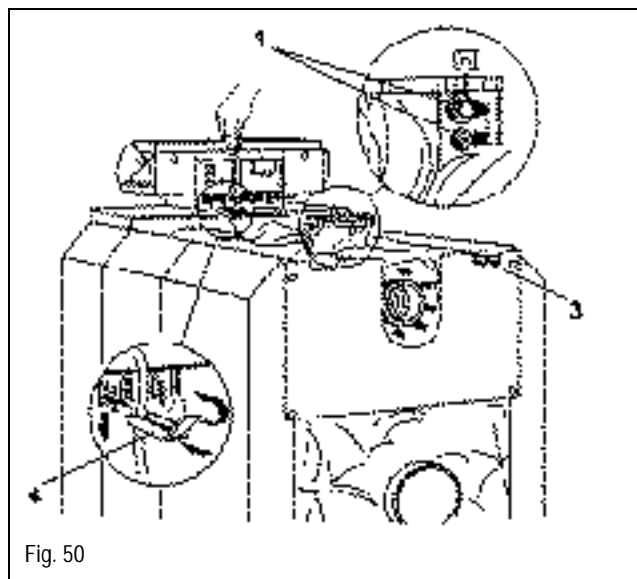

Fig. 50
- Secure control panel with 2 screws to top of jacket panel (Fig.50).
- Place Logamatic well into $\frac{3}{8}$ " tapping (1) in boiler supply connection.
- Use plastic strain reliefs (4) to secure wiring to Logamatic by pushing plastic tabs over (Fig. 50). Install top housing with 2 screws.